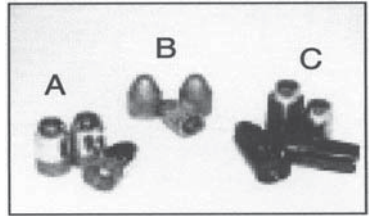

Figure 1-A
1. **POWERBELT™ BULLETS** --PowerBelt™ Bullets are conical projectiles with a plastic base. Like sabots, the PowerBelt™ Bullet's patented snap-on base creates a perfect gas seal, providing consistent pressures and un-surpassed accuracy. But unlike sabots, PowerBelt™ Bullets are easy to load and do not require cleaning after every shot. And they are full caliber sized, so you get the most knock down power possible out of a muzzleloader. PowerBelt™ Bullets are available in .45, .50, and .54 calibers, copper coated or pure lead, with hollow points or AeroTips, and in a variety of grain weights. They are the #1 selling muzzleloading bullet on the market and the only bullet recommend for CVA in-line rifles. (Figure 1-A)
2. **CONICAL BULLETS**—such as the CVA Buckslayer Bullet and others of this type provide acceptable accuracy in all CVA firearms as well as increased knock down power desired by hunters. These projectiles are best suited for use in medium to fast twist rifling barrels which stabilize the bullet more rapidly. (Figure 1-B)
Caution: Do not use a sabot bullet weighing more than 300 grains. (Figure 1-C)